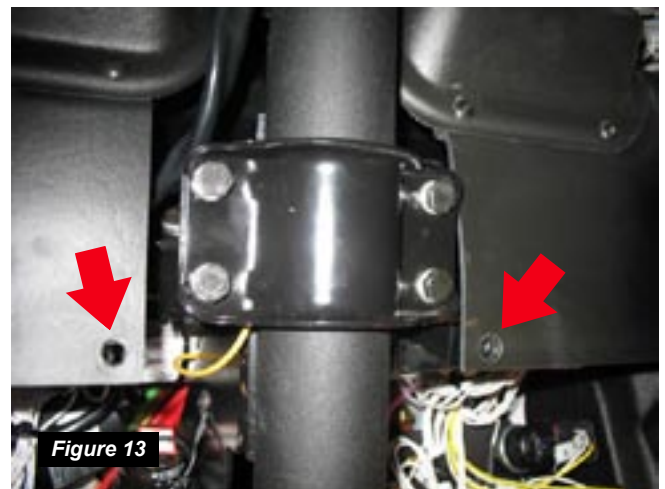

Figure 13
STEP 18: Seat the dashboard firmly in place, and install the two Allen screws removed in Step 4 to secure the lower edge of the dashboard (Figure 13).